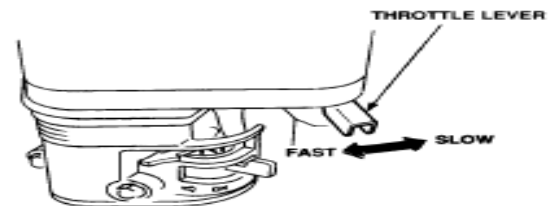

Figure 11. Throttle Lever
5. Move the throttle lever halfway between the FAST and SLOW position (Figure 11) for starting.
3. Place the engine's throttle control (Figure 11) in the SLOW (idle) position.
2. Place the engine's throttle lever (Figure 11) in the slow (idle) position.
3. Place the throttle lever (Figure 11) in the slow position. Idle engine 3-5 minutes for gradual cooling.